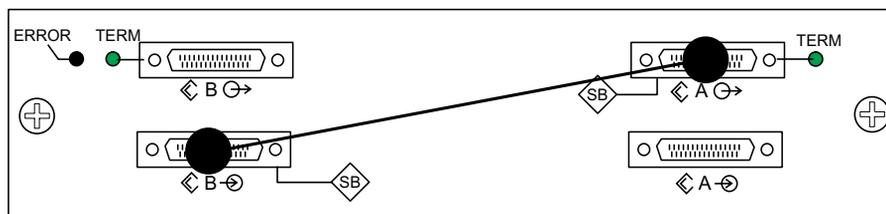

FIGURE 5-11 Cabling for Single Bus Expansion Unit
2. To configure an expansion unit as a single bus configuration, connect the SCSI jumper cable between SCSI ports (lower left and upper right ports), as shown in FIGURE 5-11.